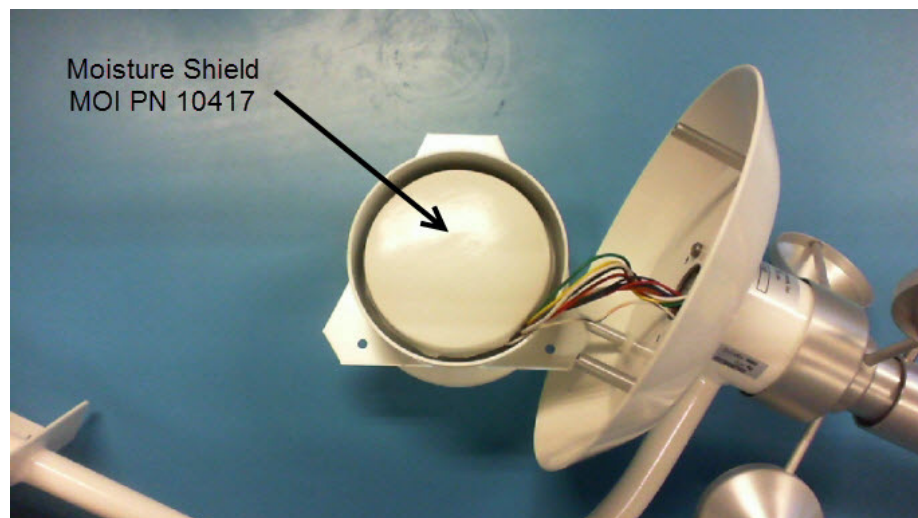

Figure 3
2. Remove the Moisture Shield MOI PN 10417 taking care not to crush the edges or misshape the dome of the Moisture Shield. See Figure 3.
5. Referring to figure 3, carefully tuck the wires down next to the PCB to create a service loop and to provide space for the edge of the Moisture Shield. Install the Moisture Shield over the PCB taking care not to crush the edges or misshape the dome of the Moisture Shield.